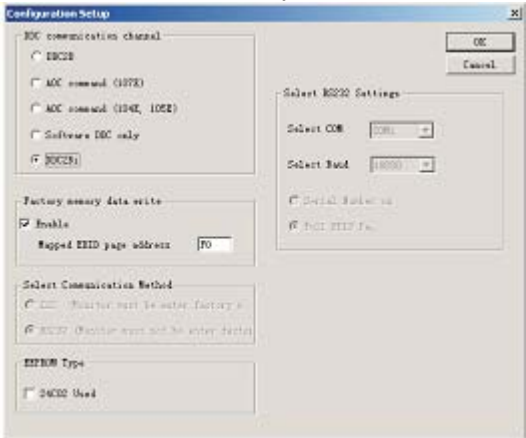

Fig.34
1. Click icon from the tool bar to bring up the Channels Configuration Setup windows as shown in Fig. 34.